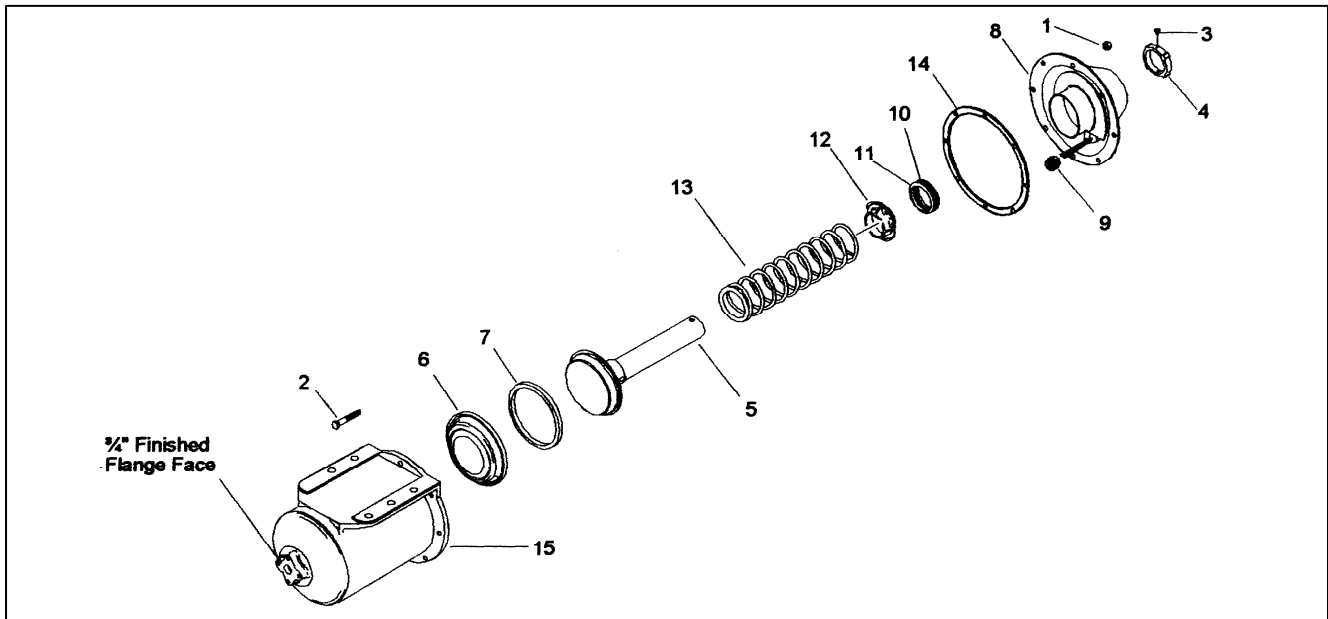

Figure 1 – Part No. 576079
**ABU 10" X 12" BRAKE CYLINDER, PART NO. 576079 - Figure 1**